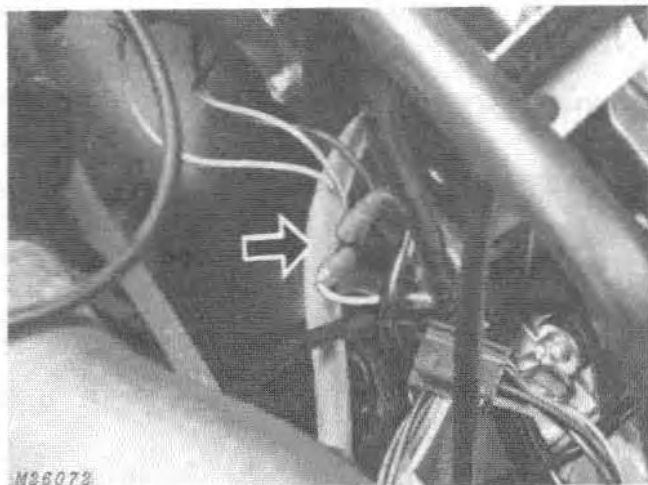

Fig. 16-Disconnecting Wiring
10. Disconnect red lead and white lead, Fig. 16.